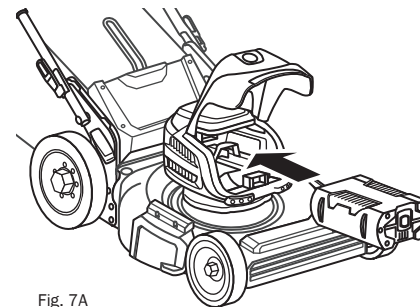

Fig. 7A
1. Open the battery door. (Fig. 7A)
2. Insert the battery pack into the battery holder (Fig. 7A). Make sure the latch on the bottom of the pack snaps into place and that the battery pack is fully seated.